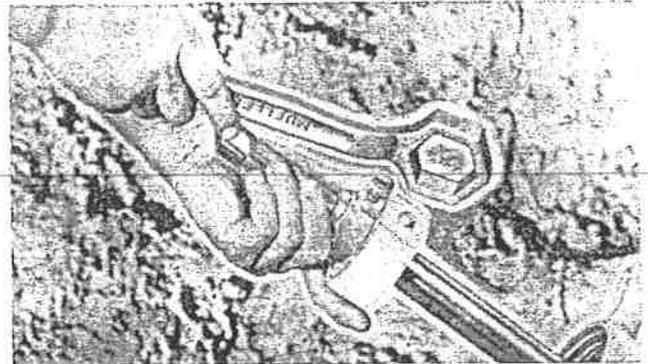

FIGURE 17
8. Strike the head of the knockout pin a light blow which loosens the combined drill and tap. FIGURE 17.